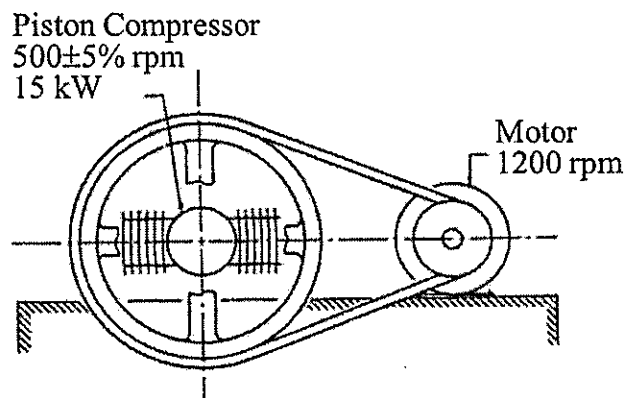

Figure 4
4. A 1200 rpm normal torque electric motor drives a piston compressor through a V-belt drive as shown in Figure 4. The compressor operates for 18 hours a day and consumes 15 kW. The pulley mounted on the motor shaft rotates at 1200 rpm while the larger pulley mounted on the compressor shaft rotates at $500 \pm 5\%$ rpm. The larger pulley has a minimum pitch diameter of 400 mm but not greater than 490 mm.